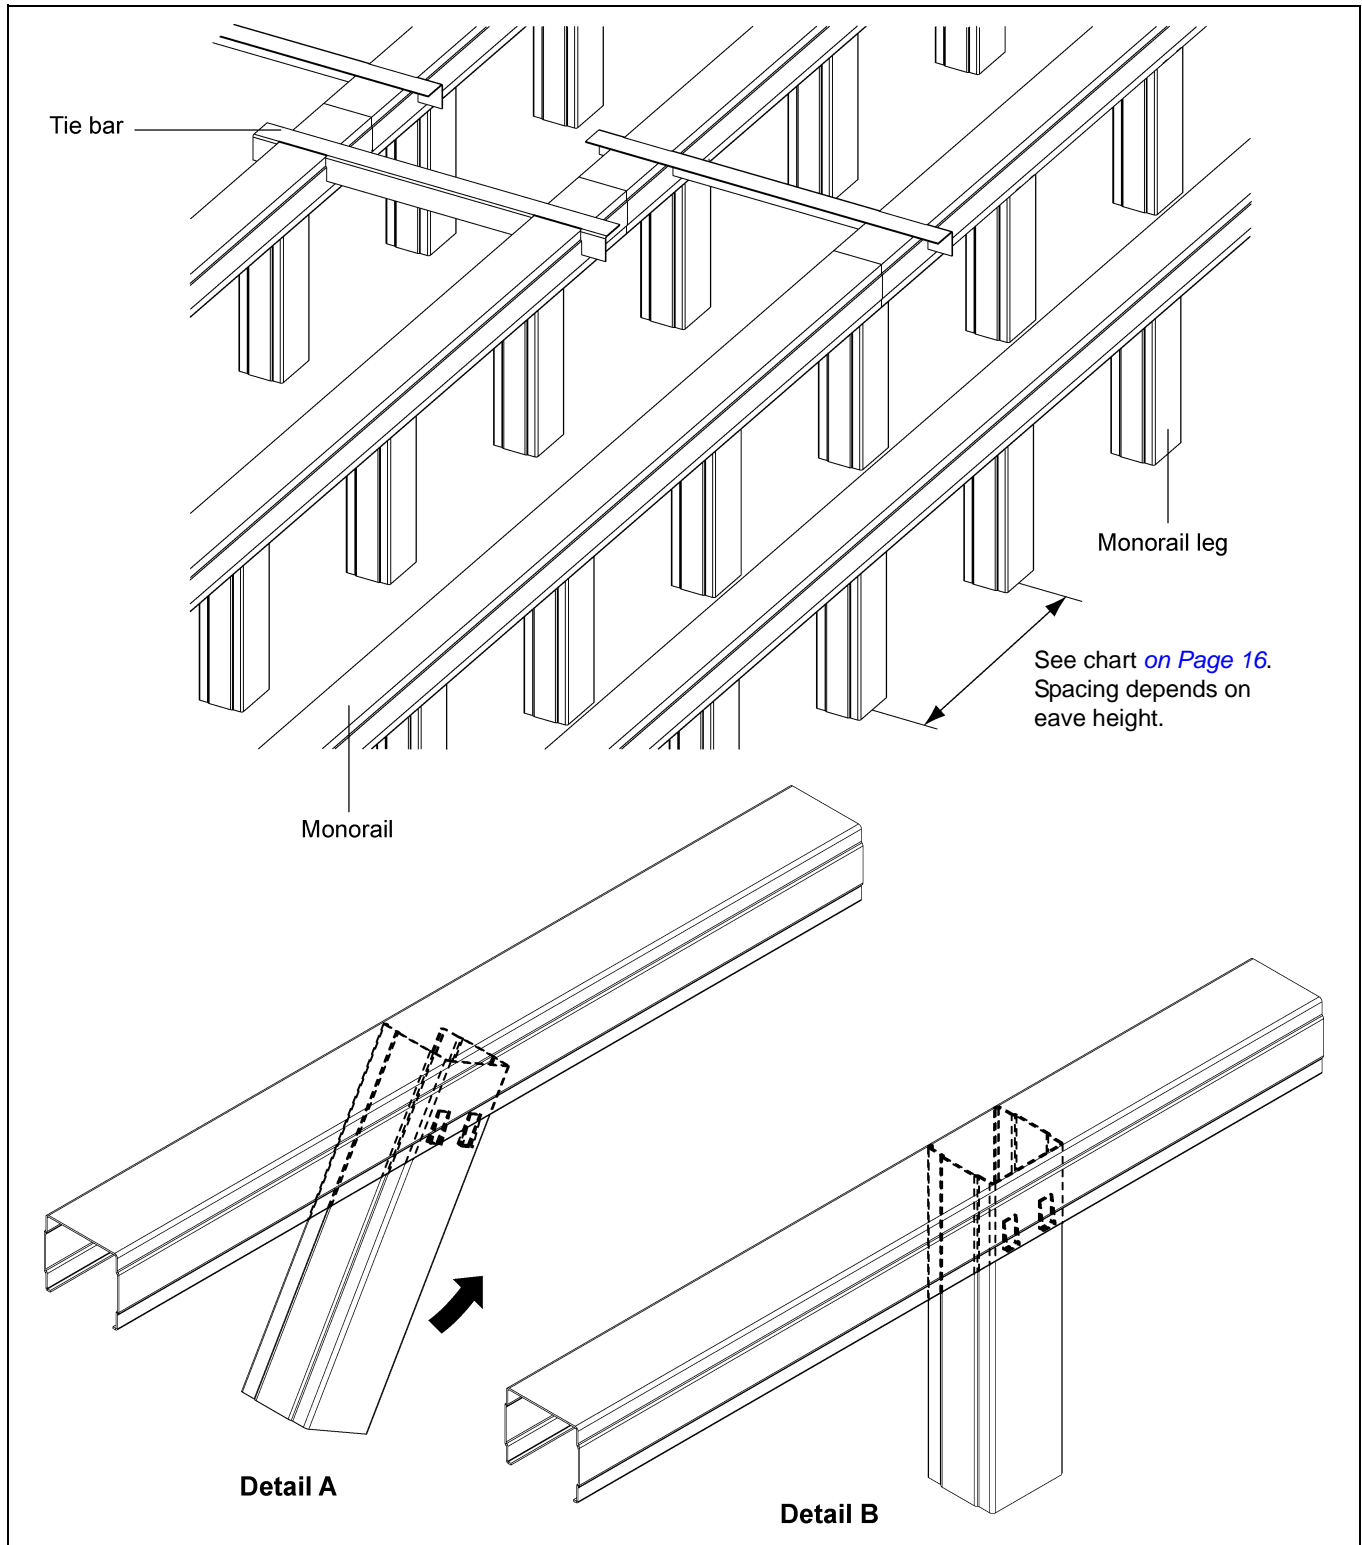

Figure 4E Assembly Leg Rail
3. The leg can then be pushed down into the rail until the tabs lock it into place. (See Figure 4E.)